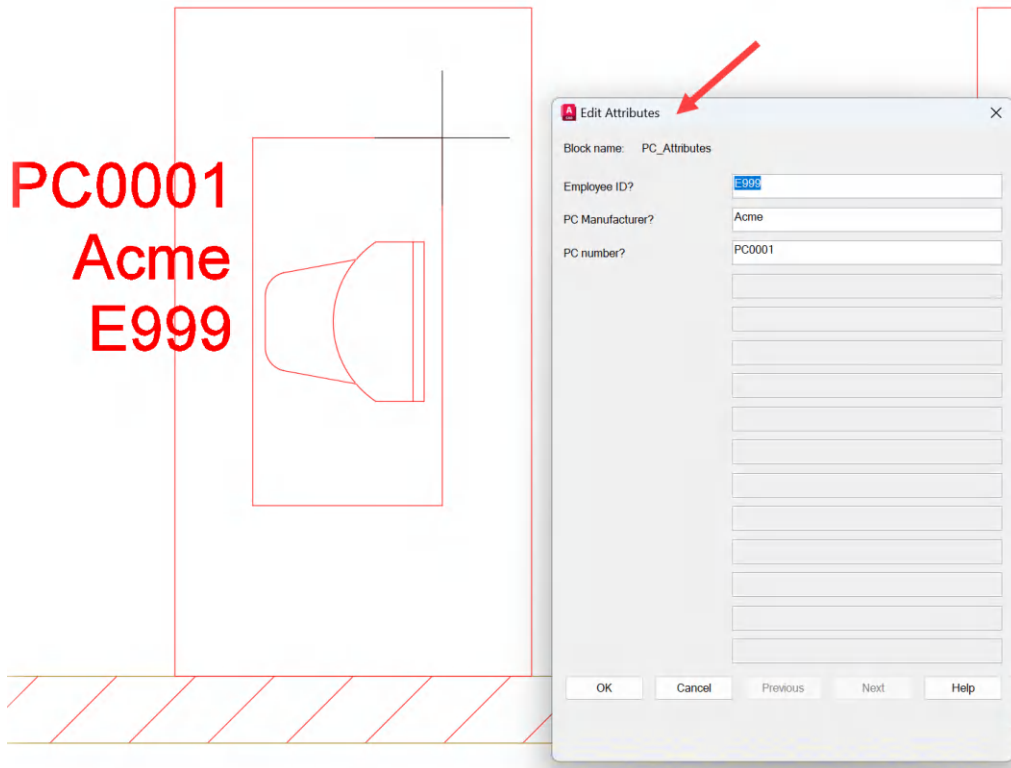

Figure 10.15: The Edit Attributes dialog box ready for any attribute editing
21. Upon clicking, you will confirm its position and be prompted to edit the block attributes in the **Edit Attributes** dialog box, as shown in *Figure 10.15*. Note that the prompts are as you set them up in the original attribute definitions, along with the default attribute values.